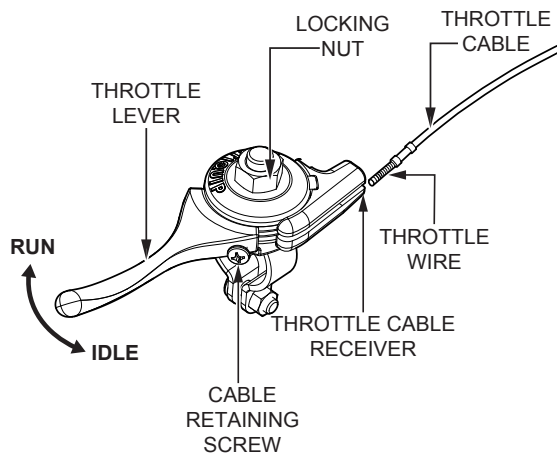

Figure 9. Adjusting Cable Tension
7. On the throttle lever, slightly loosen the locking nut and cable retaining screw (Figure 9).
8. Make sure the throttle cable is seated in the throttle cable receiver (Figure 9).
9. Route the throttle wire approximately 1/2 inch past the cable retaining screw (Figure 9). Tighten the cable retaining screw to secure the throttle wire.
10. Adjust cable tension as needed by loosening or tightening the locking nut and cable retaining screw on the throttle lever (Figure 9).